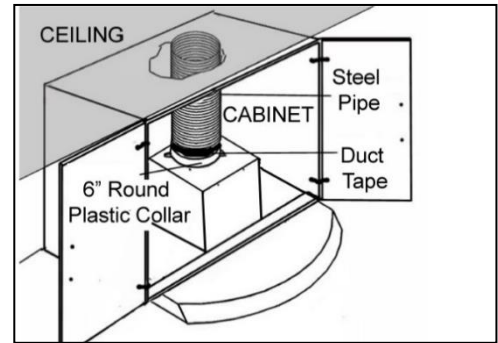

Figure 3
16. Use steel pipe to connect the 6" round exhaust on the hood to the ductwork above. Use duct tape to make all joints secure and air tight. Refer to Figure 3.